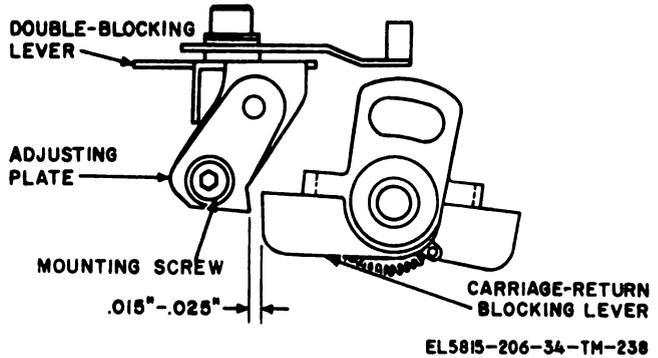

Figure 3-166. Carriage-return adjusting-plate adjustment (TT-4B/TG, TT-4C/TG, TT-335/TG, TT-537/G, TT-698A/TG, and TT-698B/TG).
(fig. 3-166)
b. Method of Checking. Turn the motor on and press the CAR RET keylever, causing the carriage to move to the left-hand margin. Turn the motor off and trip the transfer-lever latch. Hold the carriage-return blocking lever (fig. 3-166) downward and turn the motor slowly by hand until the carriage-return clutch members move against each other (tooth